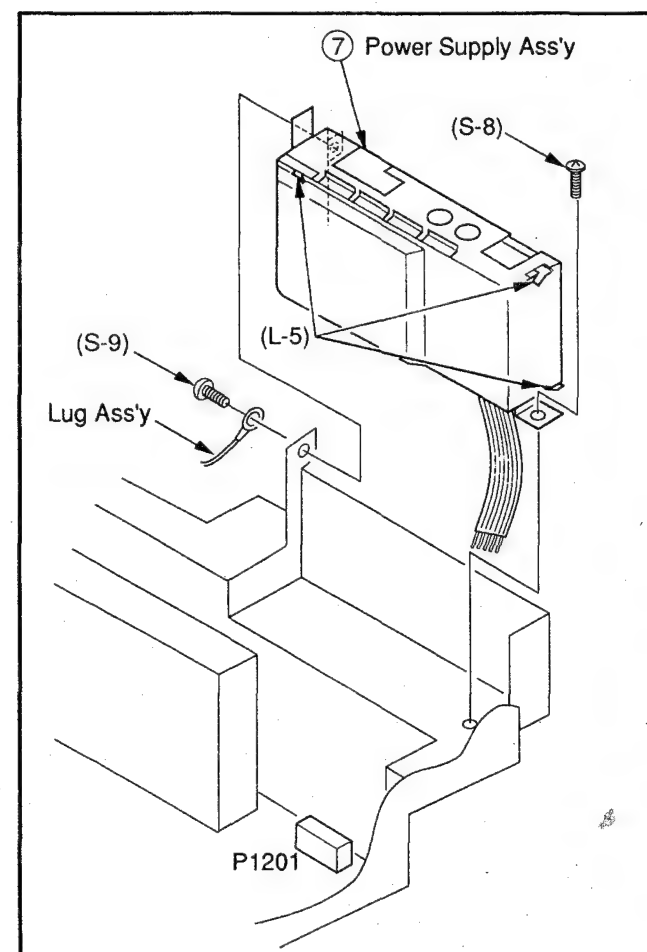

Fig. D7
5. When removing the Shield Case of the Power Supply Ass'y, twist and straighten 3 Locking Tabs (L-5) on the Power Supply Ass'y in Fig. D7. Then remove the Shield Case by pulling it away from the Power Supply Ass'y.